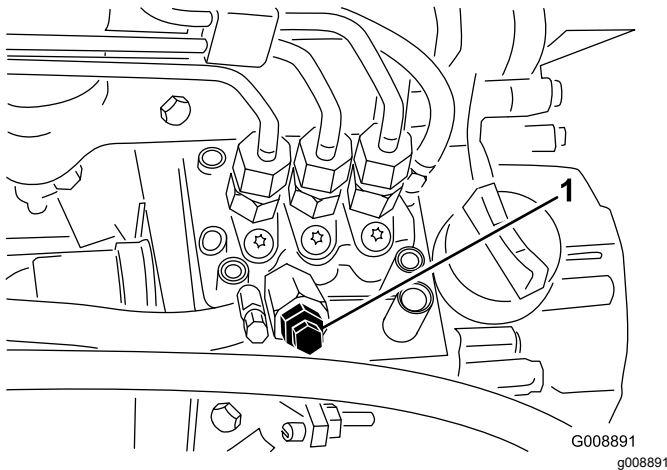

Figure 39
4. Open the air-bleed screw on the fuel-injection pump (Figure 39).